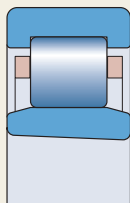

Fig. 14
- are available with one or two locating slots (designation suffix N1 or N2, fig. 14)